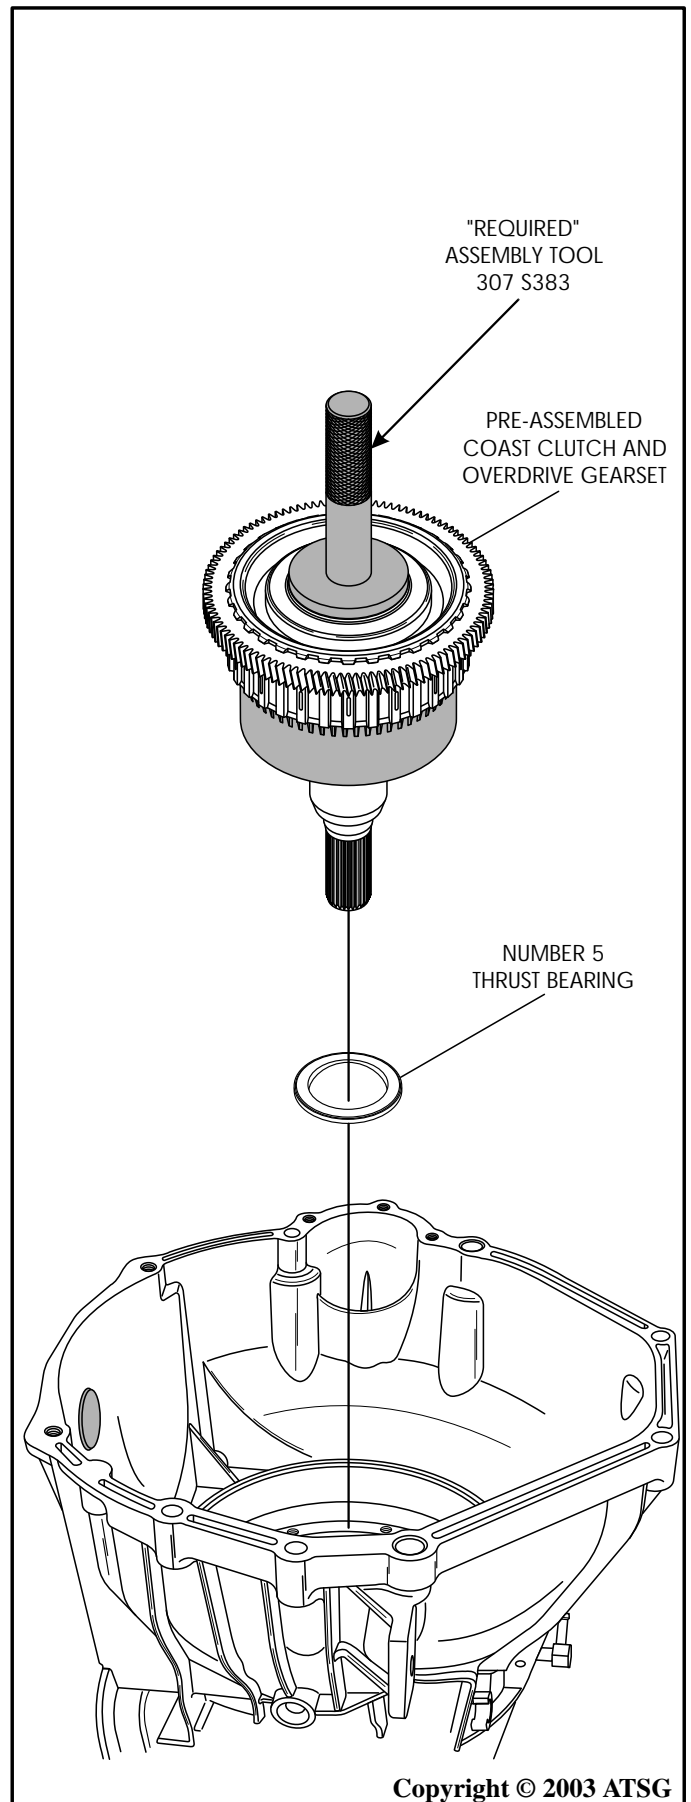

Figure 183
26. Install the pre-assembled coast clutch housing and overdrive gearset as an assembly using the **required** installation tool 307 S383, as shown in Figure 183. Ensure that the number 5 thrust bearing is still in place on center shaft.